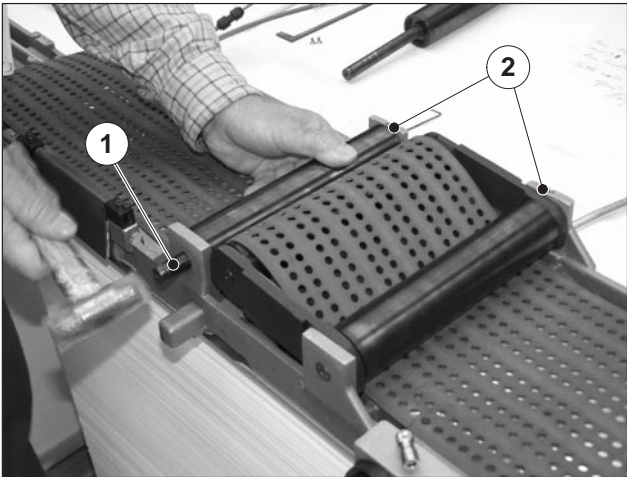

Fig. 95 Securing the shaft idler pulley
5. Using light blows with a hammer (Fig. 95/1), drive the shafts into the bearing until they are flush with the outside of the roller bearings.
6. Tighten the two grub screws on the roller bearings (Fig. 95/2).